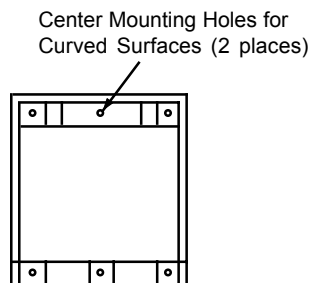

Figure 6-16. Junction Box Mounting
2. See Figure 6-16. Hold the junction box at the previously marked mounting location. Mark the two center mounting holes.